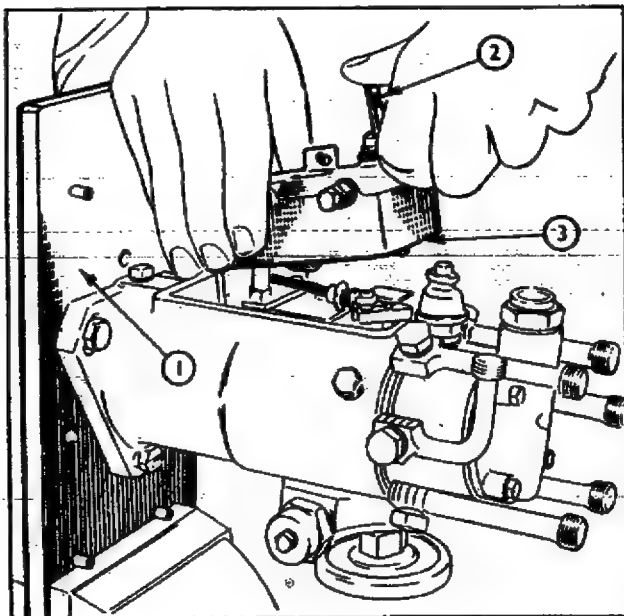

Fig. 76 1 Dismantling Jig Tool No. CA.62
4. Screw a protection cap Tool No.C.A.75 onto the throttle shaft and lift the governor cover off, pushing on the protection cap to remove the throttle shaft (see Fig. 76).